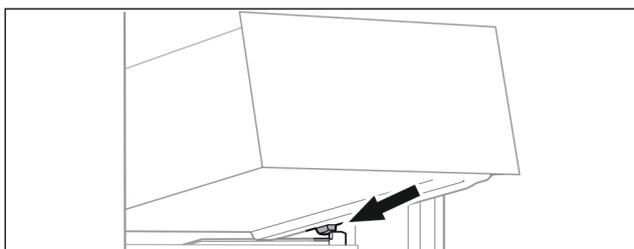

Fig. 82
- ▶ Place drawer at an angle behind the stoppers on the moulded rib. (see Fig. 82)